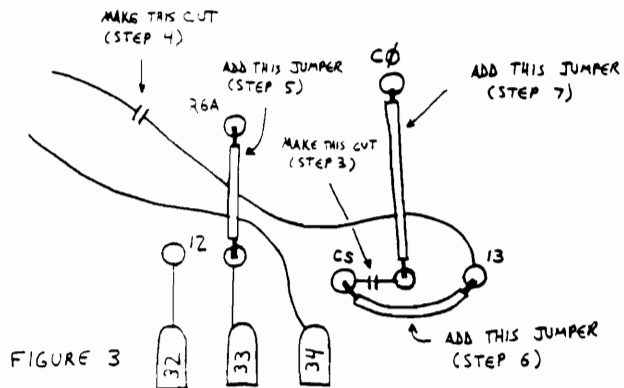

FIGURE 3
2. Remove any jumper wires attached to H, G, R6, R6A, C0, 12. (Mine were wired H to R6, 12 to C0, R6A open, G open) See figure 3 to help locate these jumper areas.
3. Cut the CS trace as shown in figure 3.
4. Cut the 13 trace as shown in figure 3.